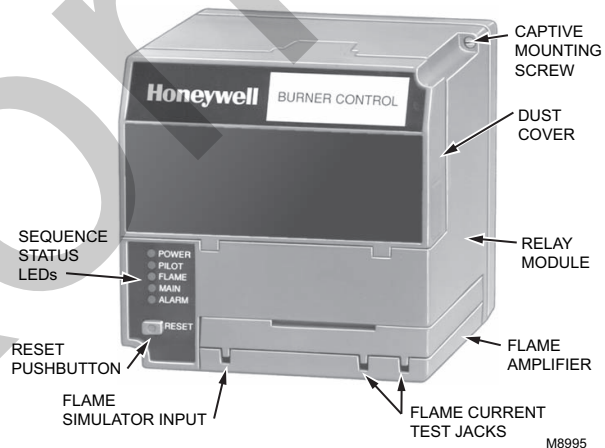

Fig. 1. Relay Module and sequence status LEDs.
- Five (LED) for sequence information, see Fig. 1.